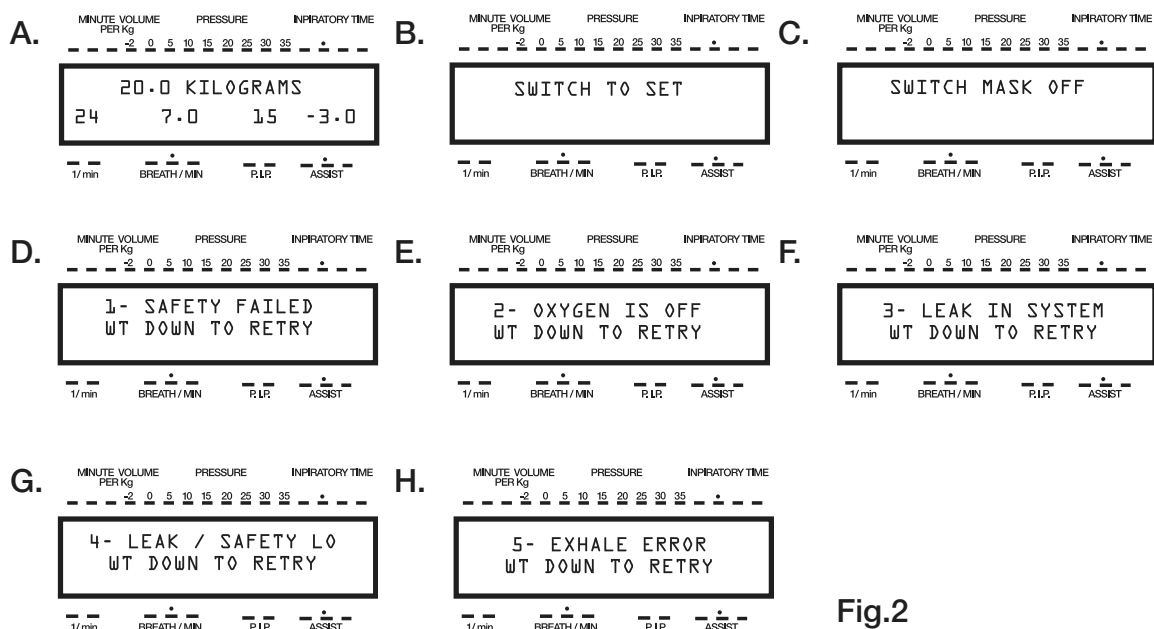

Fig.2
5. As shown in Figure 2, at the end of the self-test you will be prompted by one of the following messages in the LCD display.